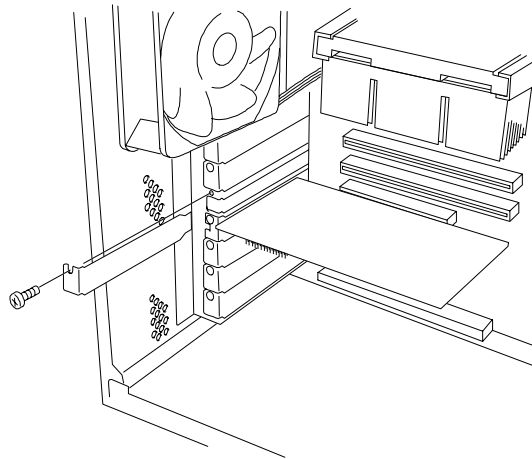

Figure 4-11. Removing the Expansion Slot Screw and Cover
3. Remove and save the expansion slot screw and cover. See Figure 4-11.